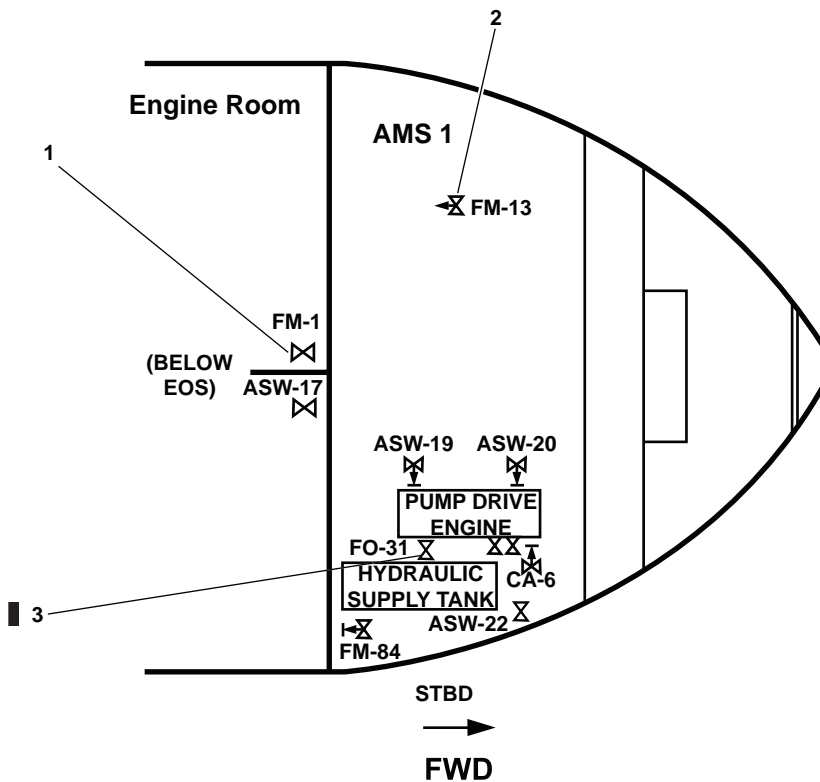

Figure 2. Valve Locations
2. OPEN valve FM-1, SEA SUCT, F.F. PMP (figure 2, item 1), located beneath the EOS.
7. OPEN FM-13, F.F. TO F.M. CRSVR (figure 2, item 2), fire pump to fire main cross connect, located in the overhead in AMS 1.
- b. CLOSE FM-13, F.F. TO F.M. CRSVR (figure 2, item 2).
1. In the engine room, below the EOS, CLOSE FM-1, SEA SUCT, F.F. PMP (figure 2, item 1).
4. OPEN FM-13, F.F. TO F.M. CRSVR (figure 2, item 2), fire pump to fire main cross connect.
- b. CLOSE FM-13, F.F. TO F.M. CRSVR (figure 2, item 2), fire pump to fire main cross connect.